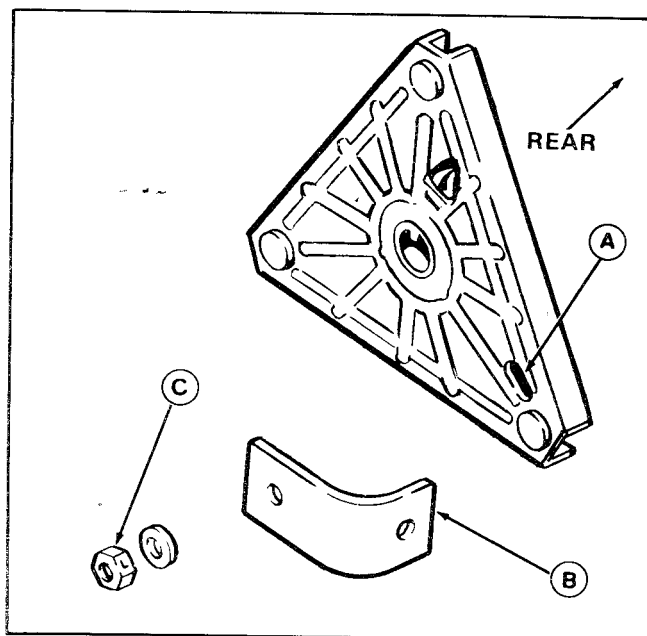
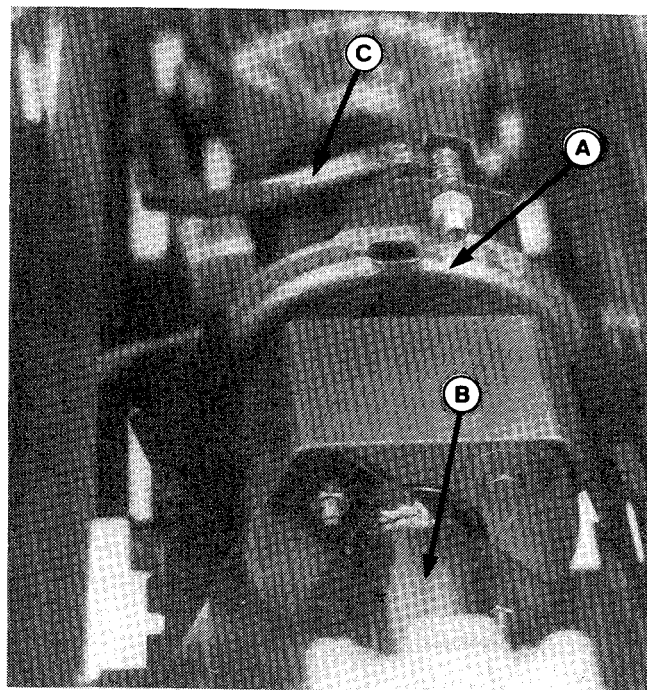
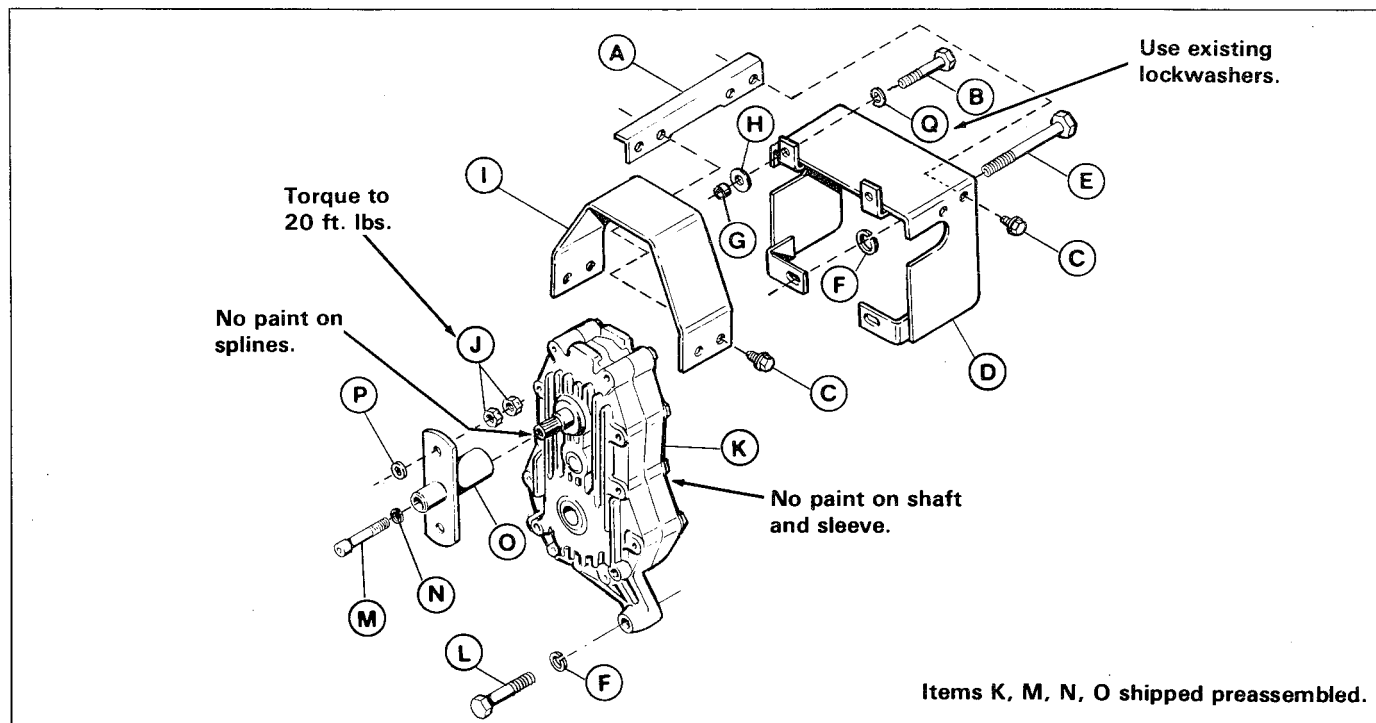

Figure 9.
Figure 10.
Figure 13.
4. The strap (B, figure 9) is connected to clutch with flange bolt, washer and nut (washer between nut and strap). Tighten the nut (C, figure 9) snug, so that strap can move in slot (A).
5. Place the clutch assembly (A, figure 10) into the tractor as shown, sliding shaft onto transmission output shaft. Note position of strap with respect to rear of tractor (B, figure 9).
7. One of the nuts (J, figure 13) is shipped on each screw thread. Remove the nuts, leaving the washers (P) in place. Position the gear box in the tractor placing adapter (B, figure 10) into screw threads. Then, install one 5/16 nut (J, figure 13) onto each screw and torque to 20 ft. lbs. Then, install another 5/16 nut (J) onto each screw and torque to 20 ft. lbs. These nuts serve as jam nuts.
8. Secure the bottom of the gear box with a 1/2 lockwasher and 1/2-13 x 4 capscrow (L, figure 13). Install two 1/2 lockwashers and two 1/2-13 x 2-1/4 capscrows (E) loosely, at this time. See figure 13.
9. Assemble the cover (I, figure 13) to the supports (A) with four 5/16 x 1/2 self-tapping screws (C). Place the shield (D) onto supports (A) and install with four 5/16 x 1/2 self-tapping screws (C). Position these assembled parts on the tractor. See cover (B, figure 11), support (C) and shield (D).
11. Then re-install the two capscrows (C, figure 12) with lockwashers (F, figure 13) through lower shield holes and into the transmission. Tighten snug at this time. Place 5/16 x 9/16 spacers (G, figure 13) and 5/16 washers (H) between gear box and shield. Install two 5/16 x 2 capscrows (B, figure 13) and existing lockwashers (Q, figure 13).